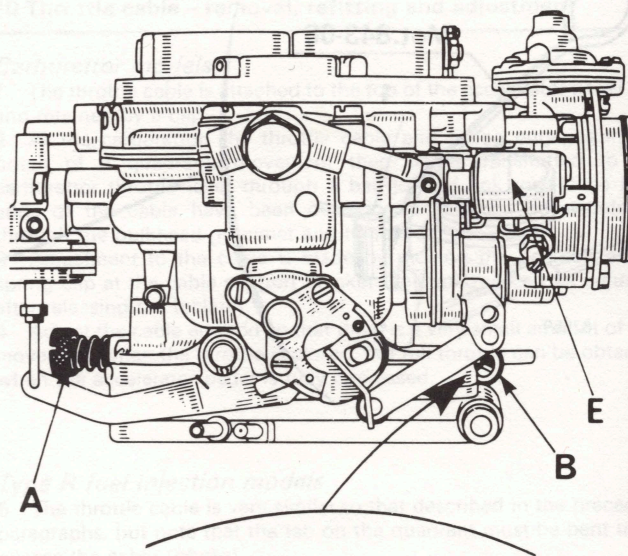

Fig. 3.14 Carburettor adjustment screws (Secs 11 and 12)
The carburettor incorporates a constant CO circuit controlled by a mixture screw (B – Fig. 3.14) and a volume (idle speed) screw (A) which operates on a supplementary circuit.
- 2 Remove the tamperproof cap from the mixture screw (Fig. 3.14) and then connect an exhaust gas analyser in accordance with the maker's instructions.